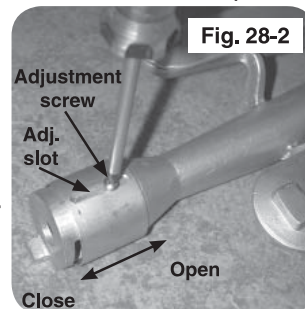

Fig. 28-2
2. Adjust the air shutter opening by loosening the adjustment screw with a screwdriver, then sliding the air shutter backward or forward to open or close the air shutter opening (see Fig. 28-2).